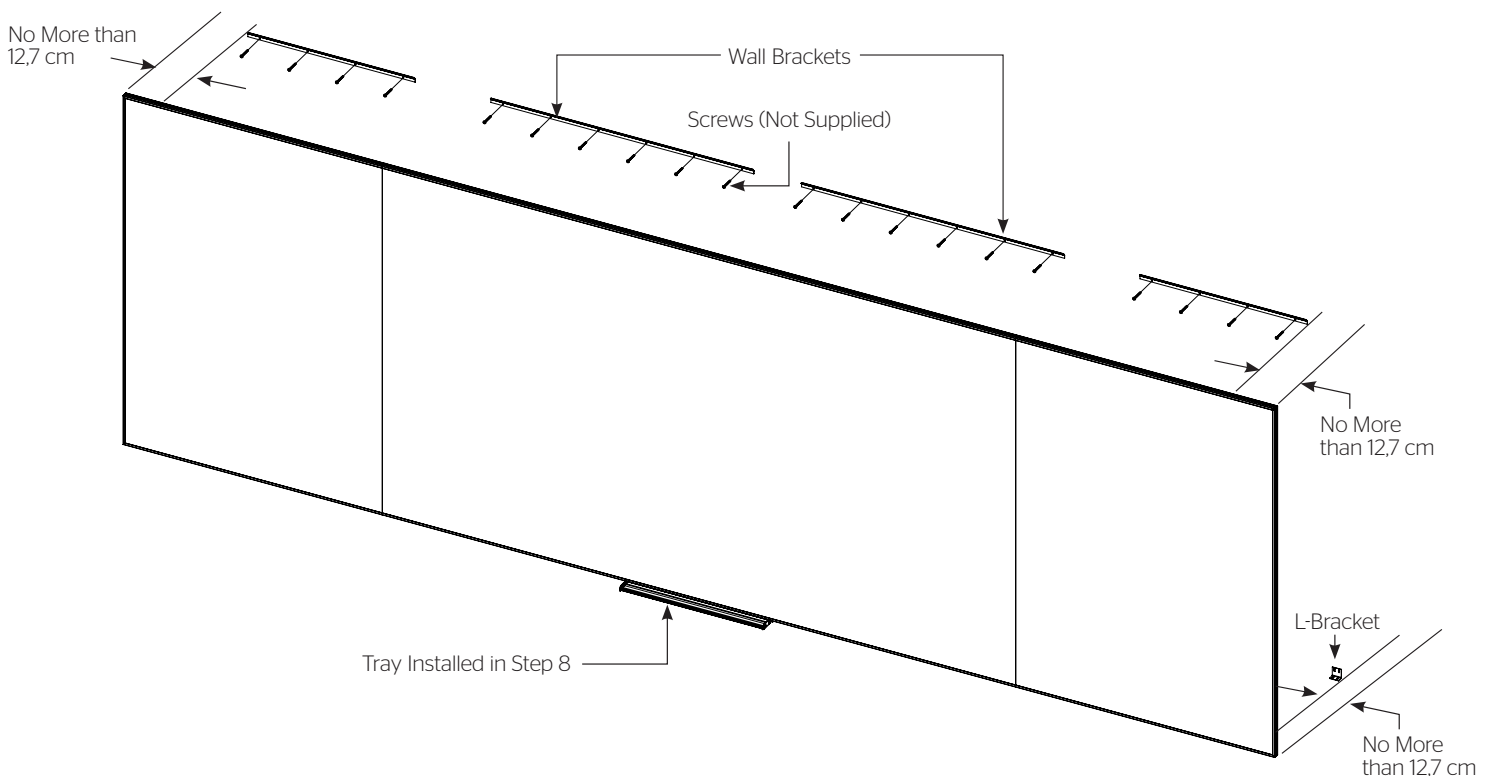

Figure 3
2. Secure the two side panel wall brackets to wall studs at the height selected in Step 1. Each side panel wall bracket should be centered between the seam brace and left or right outside edge of the frame when mounted to the wall (Figure 3).
3. To install the (2) center panel L-brackets, you must measure the overall height of the screen frame and subtract 2,9 cm. Using that dimension, measure down from the top edge of each of the center wall brackets and mark the wall for two screw holes. The outside edge of each center panel L-bracket must be no greater than 12,7 cm away from the left or right panel seams (Figure 3).
4. Secure the two center panel L-brackets to the wall at the marked locations. The longest side of the two center panel L-brackets should be pointing upwards when secured in order to hide the L-brackets behind the screen frame once the screen is installed (Figure 3).